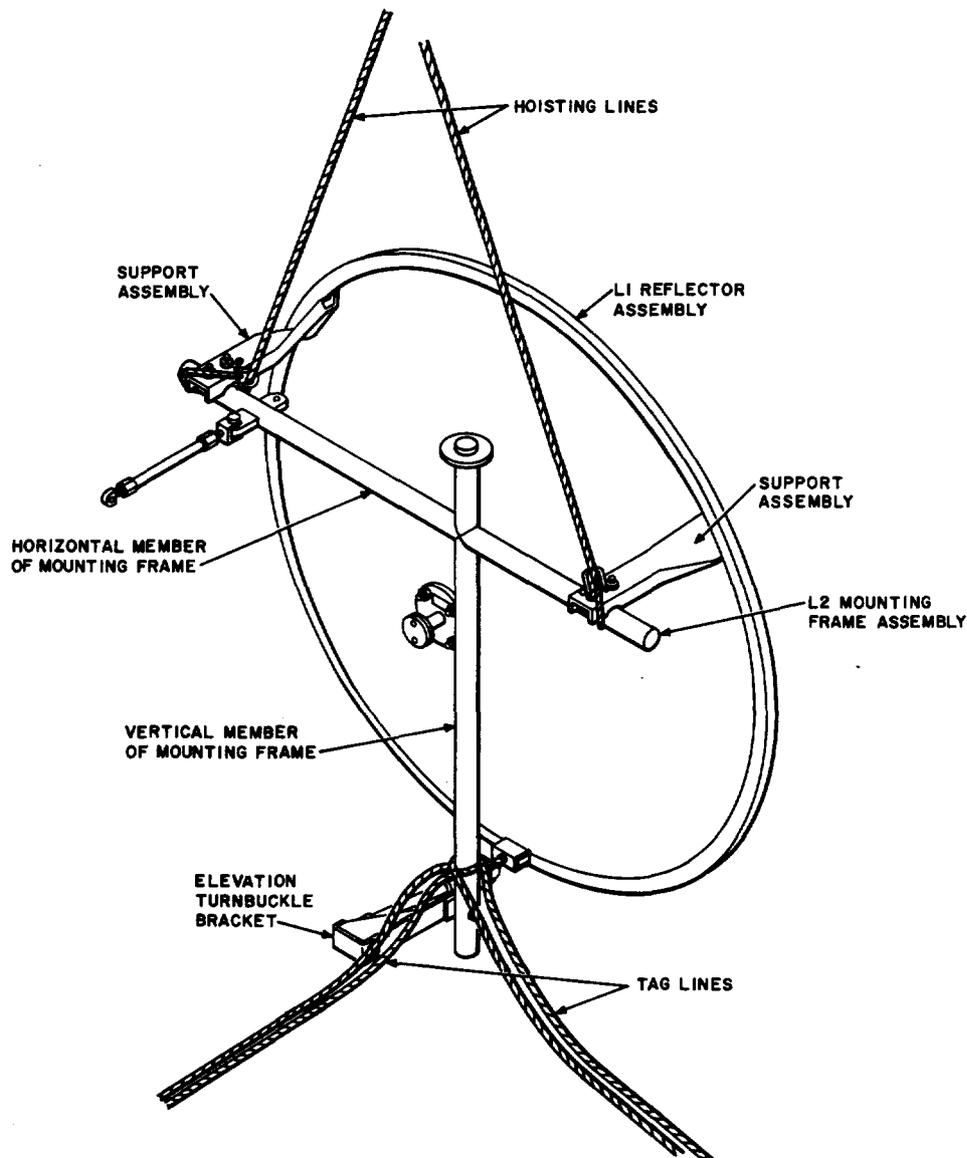

Fig. 5—Hoisting Sling and Tag Line Attachment to Antenna
5.02 Connect the hoisting sling to the antenna mounting frame assembly at the junction of the horizontal member of the mounting frame support assemblies which connect to the antenna reflector (Fig. 5).
5.03 Connect two tag lines to the mounting frame assembly at the junction of the vertical member of the mounting frame and the elevation turnbuckle bracket (Fig. 5). The tag lines should be used to prevent the antenna from striking the side of the support structure during the hoisting operation. As the antenna rises, it may be necessary for the tag line men to move farther from the support structure in order to gain better control.